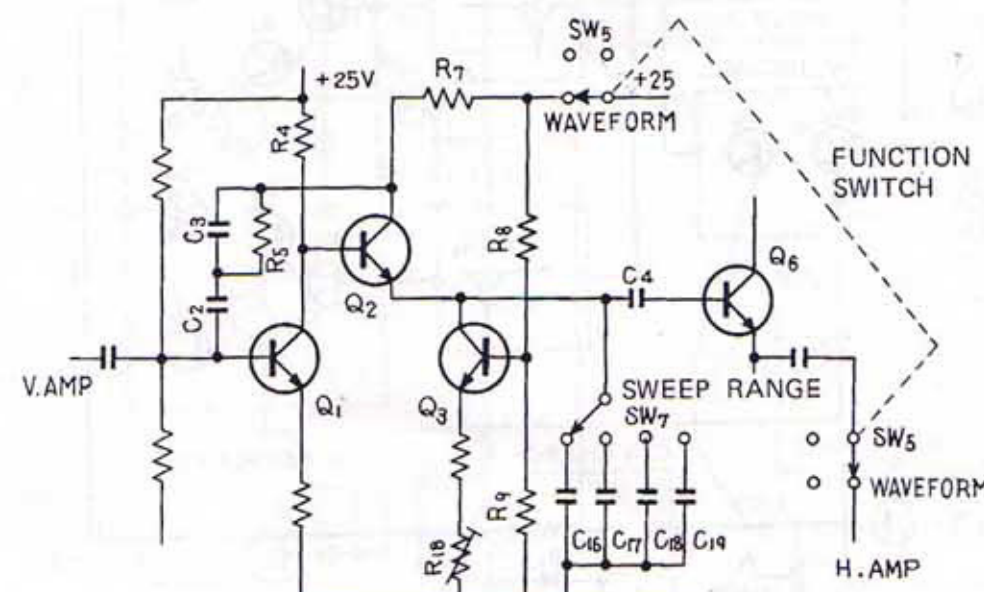

Fig. 9
6.6 SWEEP TIME GENERATOR (Fig. 9)
When the FUNCTION switch is set at position WAVEFORM, this circuit is activated and supplies the required horizontal saw-tooth wave. See Fig. 9. The FUNCTION switch controls the power supply (+B, +25V) to Q2 through pin 4 on the PCB. The basic bias for Q1 is set at a value approximating class B operation because the collector current of Q1 drops when there is no input from the V amplifier to the base of Q1.